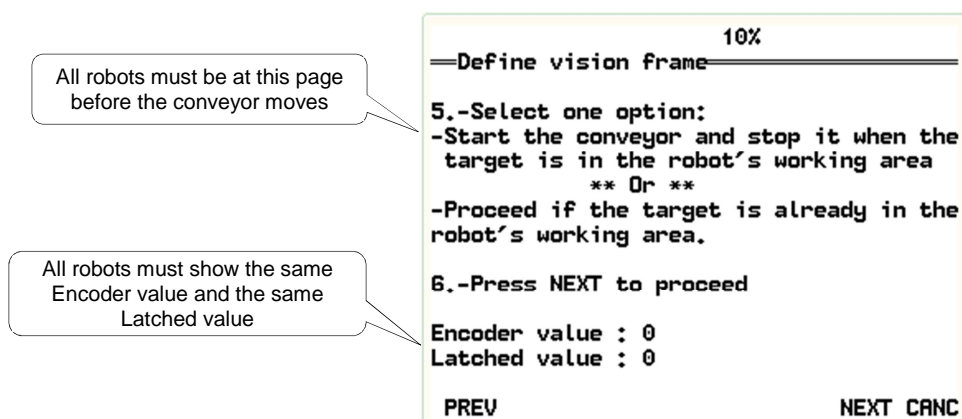

Figure 4.37
1. Execute the step by step procedure of the function "Define frame for vision" until all robots are asking to start the conveyor (Figure 4.37).